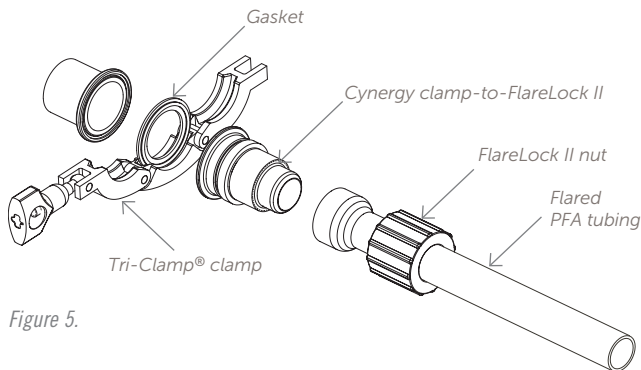

Figure 5.
3. Place the appropriate gasket between the two sanitary flanges (Figure 5).